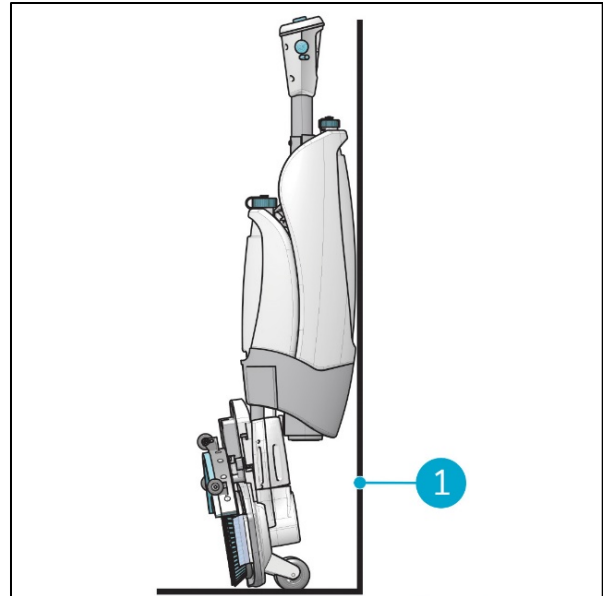

Figure 24
3. Store the i-mop XXL plus close to a wall (Figure 24, pos 1) with the handle pointing towards the wall and the brushes facing away from the wall.